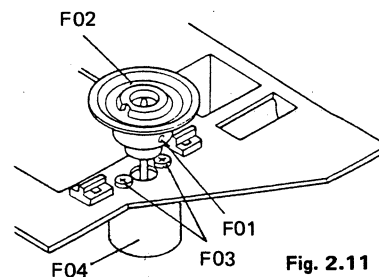

Fig. 2.11
- (1) Refer to Fig. 2.11.
- (2) Remove Disc Tray Ass'y referred to in item 2.6.
- (3) Remove F01, then pull up F02 (Turntable B Ass'y)
- (4) Remove F03, then F04 (Disc Motor).